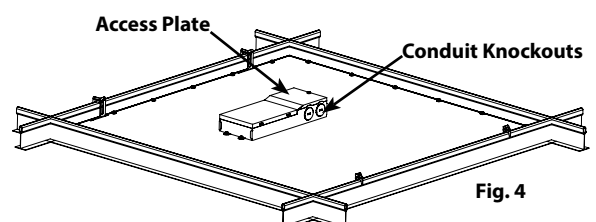

Fig. 4
5. Loosen **Access Plate Screw** and remove the **Access Plate**. Knock out appropriate **Conduit Knockouts** on the **Access Plate** to route input conduit. Use appropriate conduit connectors as required by code (Fig. 4).